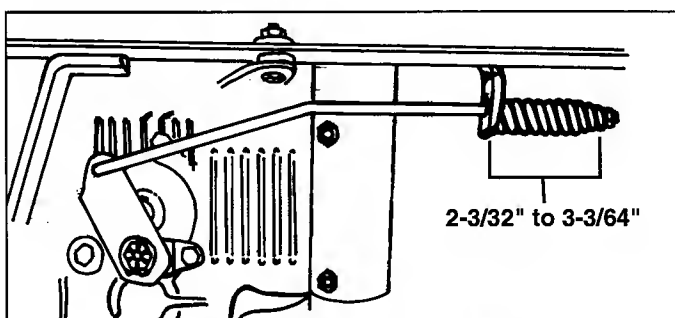

Figure 30. Brake Adjustment - Hydro Models
2. See Figure 30. The brake rod spring should measure 3" (2-3/32" to 3-3/64") when compressed. Turn the adjustment nut to achieve correct spring length.